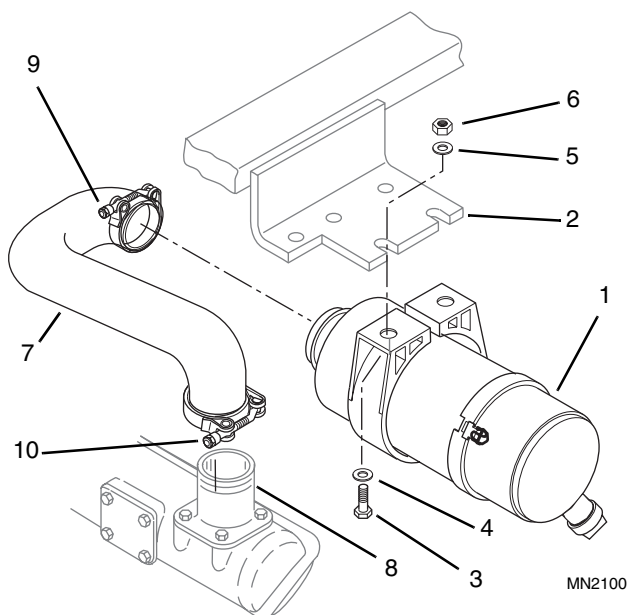

Figure 10-97 Air Cleaner Installation
28. Install the air cleaner (Fig. 10-97, 1) to the frame crossmember (2), and secure with cap screw (3), flat washer (4), rebound washer (5), and new hex locknut (6).
29. Install the intake hose (Fig. 10-97, 7) between the air cleaner (1) and induction manifold (8), and secure with clamps (9 & 10).